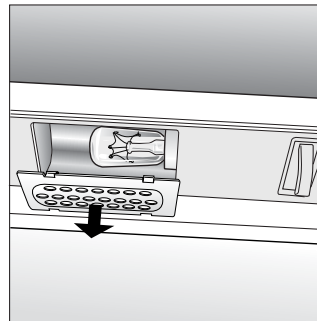

Fig. 3
- *Replacing the light bulb.* Switch off and remove plug from the mains socket before replacing the bulb. Remove the light cover and unscrew the bulb and replace it with a new one, with wattage no higher than 10 watts. See fig 3.